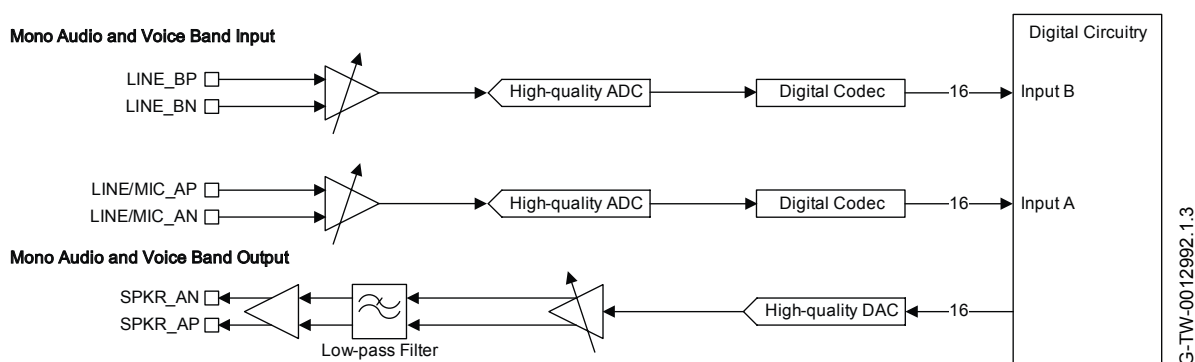

Figure 9.2: Audio Codec Input and Output Stages
Figure 9.2 shows the CSR8615 QFN consists of 2 high-quality ADCs:
- 1 fourth-order Sigma-Delta converter, see Figure 9.2